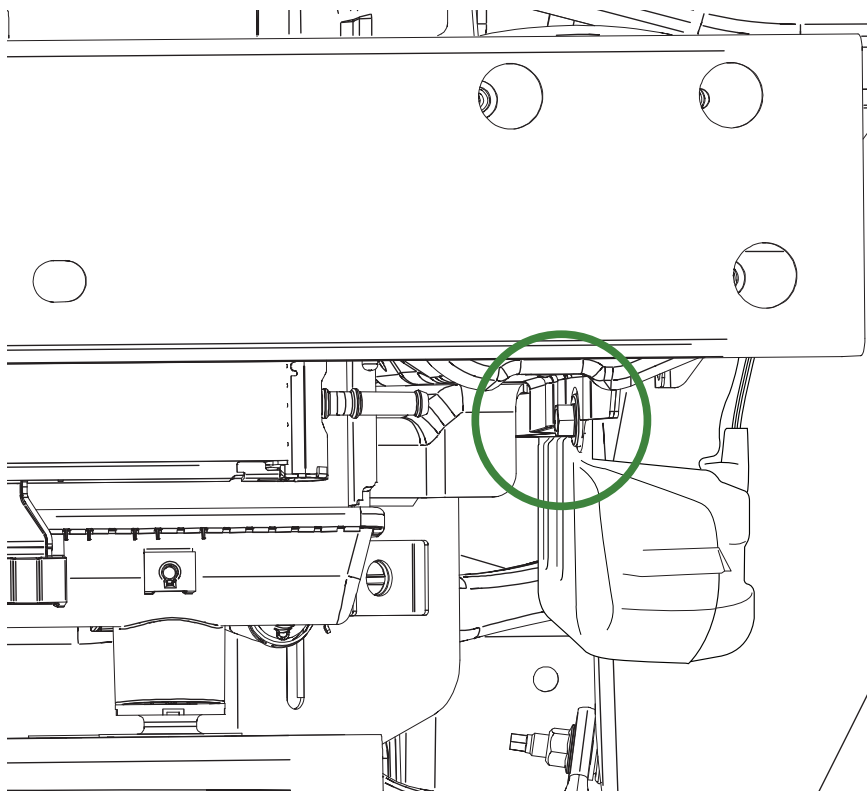

Figure 11 - Replacing the Windshield Fluid Tank Screw
13. Use a 13 mm tool to remove the screw at the bottom of windshield washer fluid tank, circled **green** in Figure 11.